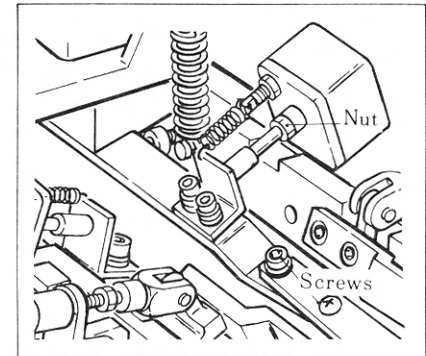

Figure 14
- (g) Each brush arm has an adjustable stop to prevent the brush from hitting the lip on the forward edge of the clamp foot when the brushes open (see Figure 14).